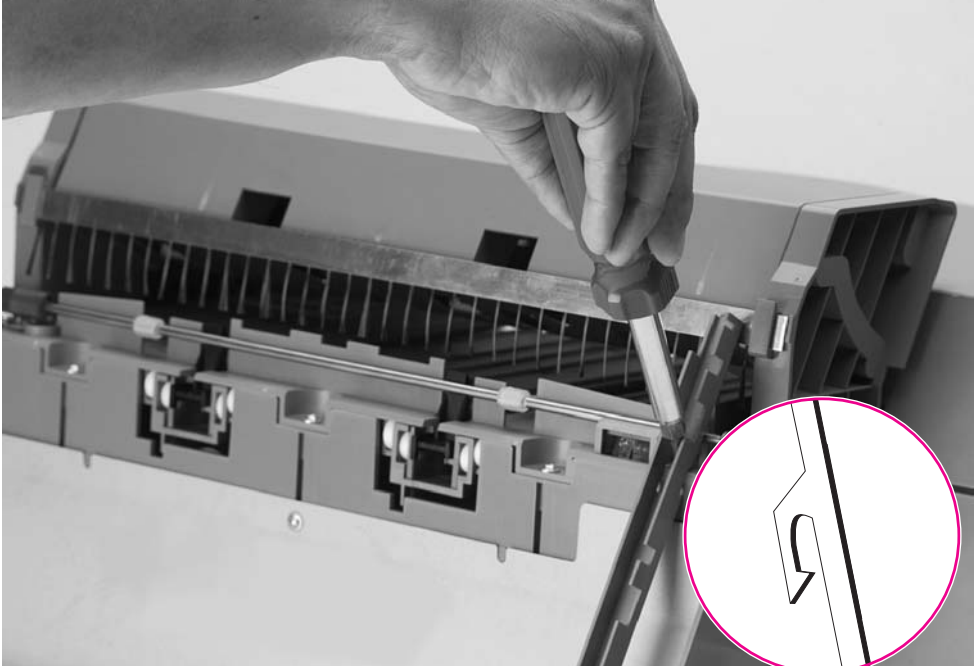

Figure 6-180 Back Plate (1 of 2)
- 2 Remove the Scan Bar by carefully pressing the tab on the scan bar backwards and downwards through the hole of the Stapler Bed (see figure 6-180) with a flat-tip screwdriver, then lift the bar.
- 2 Remove the Back Plate (see figure 6-180).
- 2 Open the Top Cover Assembly, and remove the Back Plate (see figure 6-180 on page 365).
- 2 Remove the Back Plate (see figure 6-180 on page 365).